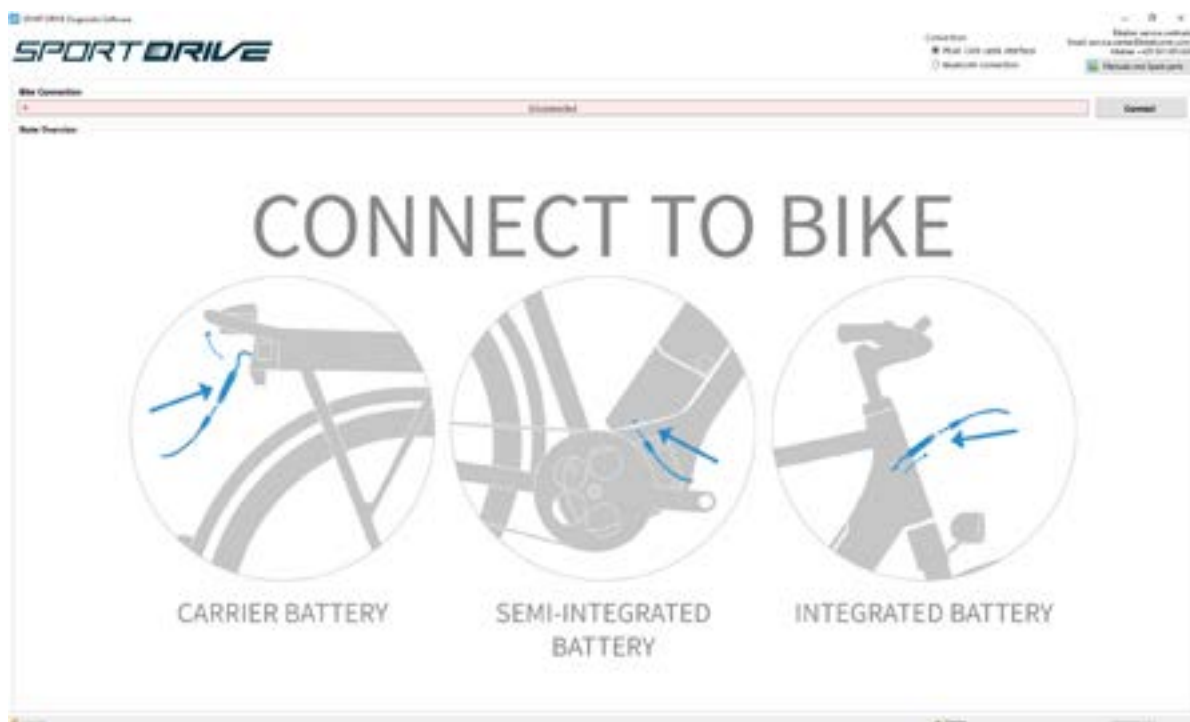

Figure 3.36 Firmware update – Reconnection
6. Then click on “Connect” (Fig. 3.36).